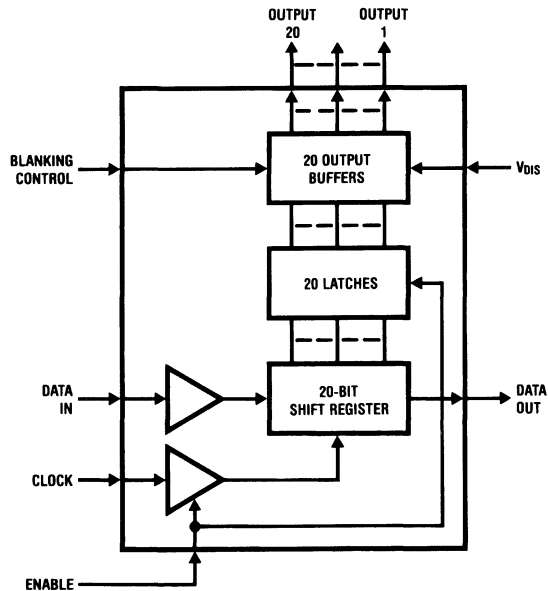

FIGURE 1
This product is specifically designed to drive multiplexed or non-multiplexed high voltage alphanumeric or dot matrix vacuum fluorescent (VF) displays. Character generation is done externally in the microprocessor, with a serial data path to the display driver. The MM58342 uses three signals, DATA IN, CLOCK and ENABLE, where ENABLE acts as an external load signal. Display blanking can be achieved by means of the BLANKING CONTROL input, and a logic '1' will turn off all sections of the display. A block diagram of the MM58342 is shown in *Figure 1*.